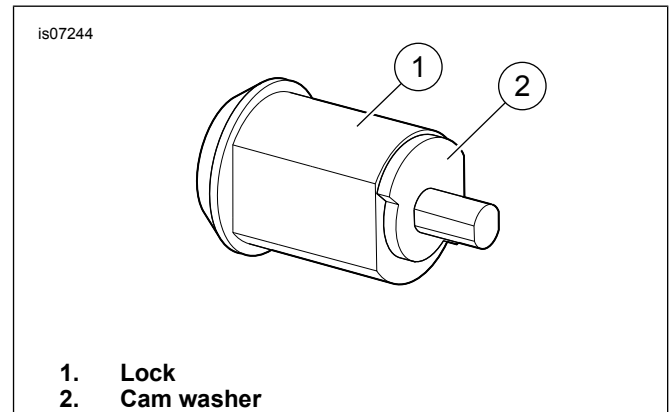

Figure 1. Lock and Cam Washer
See Figure 1. Keep the cam washer (2) on the lock (1). The cam washer can easily slip off of the lock, and is not sold separately.